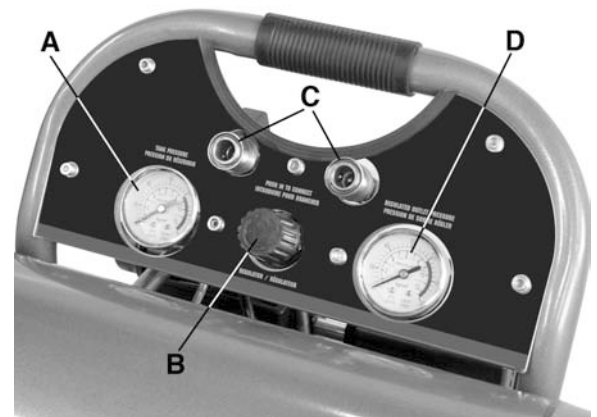

FIGURE 5
TANK PRESSURE GAUGE (A) FIG.5. The tank pressure gauge indicates the reserve air pressure in the tank.
REGULATOR (B) FIG.5. The air pressure coming from the air tank is controlled by the regulator. Turn the regulator knob clockwise to increase pressure or counterclockwise to decrease pressure.
“ONE TOUCH” 1/4” QUICK RELEASE COUPLERS (C) FIG.5. Connect an air hose with a 1/4” male coupler installed and connect it to one of the female quick release couplers.
OUTLET PRESSURE GAUGE (D) FIG.5. The outlet pressure gauge indicates the air pressure available at the outlet side of the regulator. The pressure is controlled by the regulator and is always less than or equal to the tank pressure.